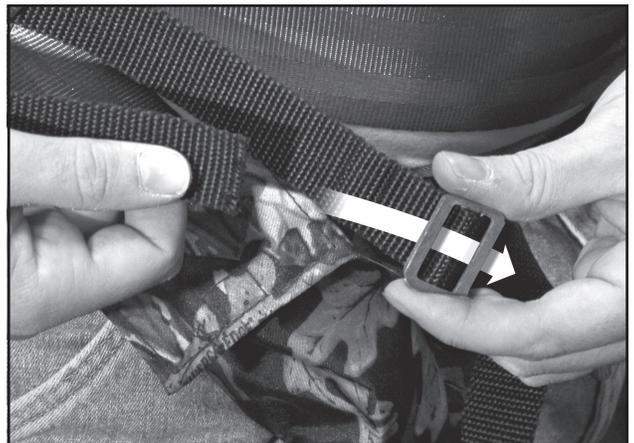

FIGURE 2A
3. Take the opposite end of SRD strap and feed it through the other climbing belt loop located on other side of harness. Once SRD strap is fed through climbing belt loop, feed the SRD strap back through the adjustment slide. **SEE FIGURES 2A & 2B.**